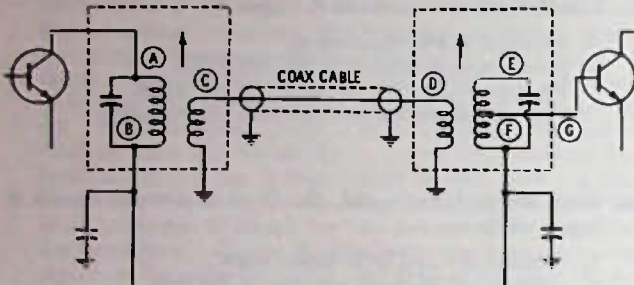

Fig. 14-21. Circuit for Questions 27, 28, and 29.
27. In Fig. 14-21, the coupling circuit is known as
28. In Fig. 14-21, the low impedance circuits are between
29. The circuit in Fig. 14-21 is more likely to be used when the signal